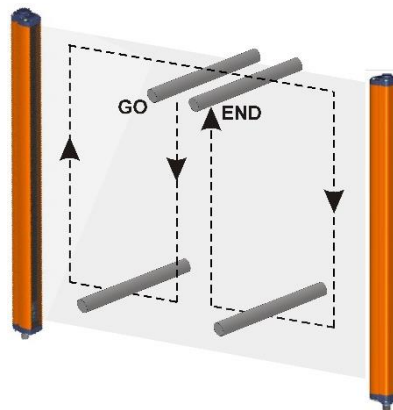

Fig. 11
- ESPE remains blocked (➡I) intercepting the beams along the protected area using the specific test piece, following the Fig.11 scheme.